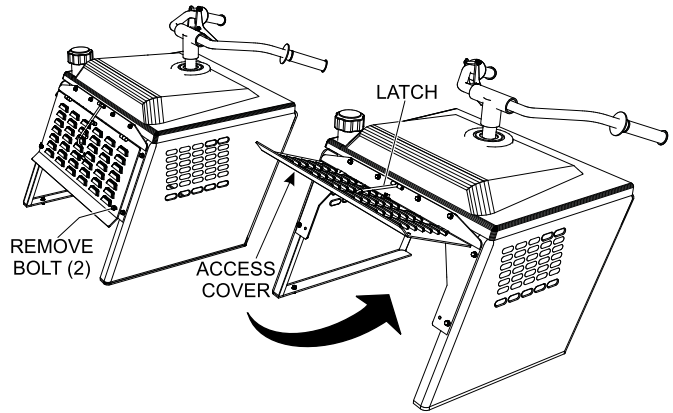

Figure 40. Access Cover
6. Remove the two bolts that secure the access cover (Figure 40) to the buggy frame.